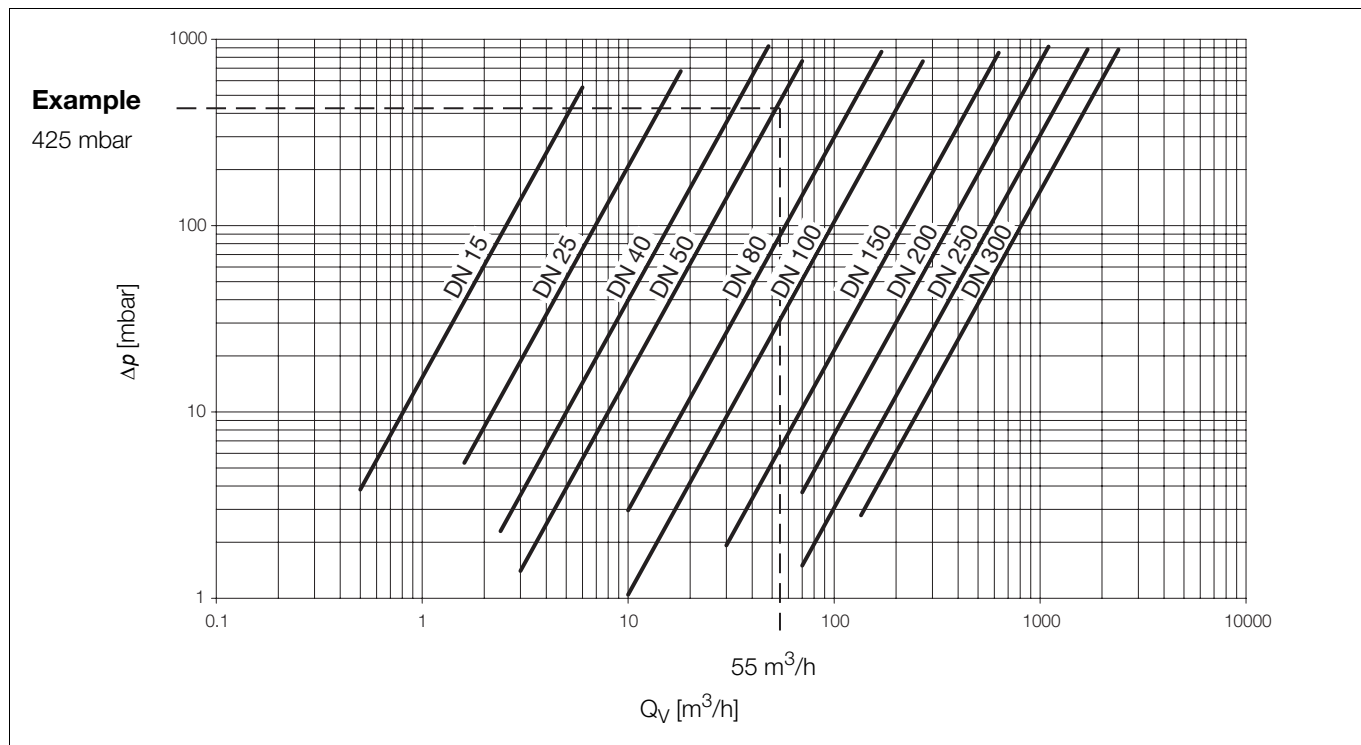

Fig. 5: Pressure Drop, Water (20 °C, 1013 mbar, ρ = 998 kg/m³), DIN-Design
See Fig. 5 for water (20 °C, 1013 mbar, ρ = 998 kg/m³).
Δp = Pressure drop water [mbar] (from Fig. 5)
- Flow range start, linear, at 2 cSt, (from Fig. 5): Q_{v,min} = 6 m³/h